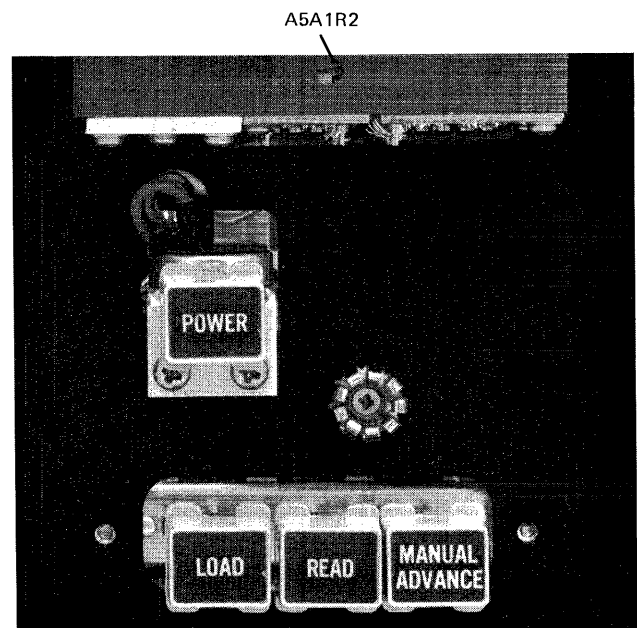

Figure 4-3. Phototransistor Reference-Voltage Variable Resistor Location
- a. Remove switch cover on front of tape reader and turn variable resistor A5A1R2 (see figure 4-3) to maximum clockwise position.